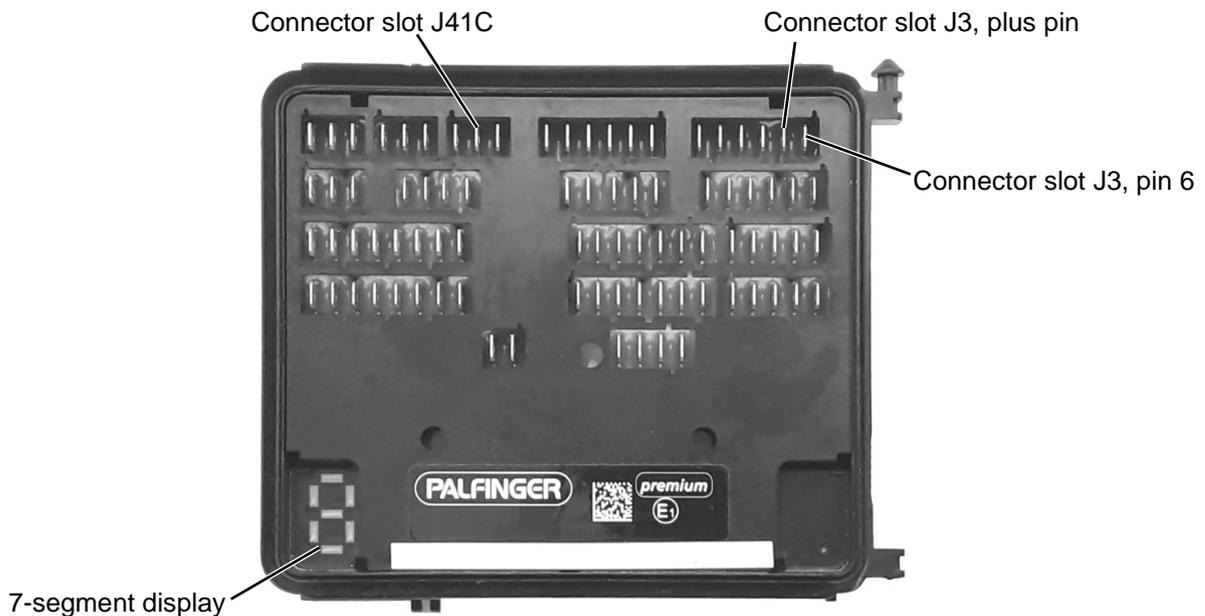

Figure 44: Controller (example image)
- ▶ If there is no foot switch available: Give a plus pulse eight times to the plug location J3, pin 6, on the controller (see Figure 44). To do this, you can tap plus from the pin next to it.
- ▶ Disconnect the 3-pole plug of the platform sensor J41C from the controller (see Figure 44, page 65).